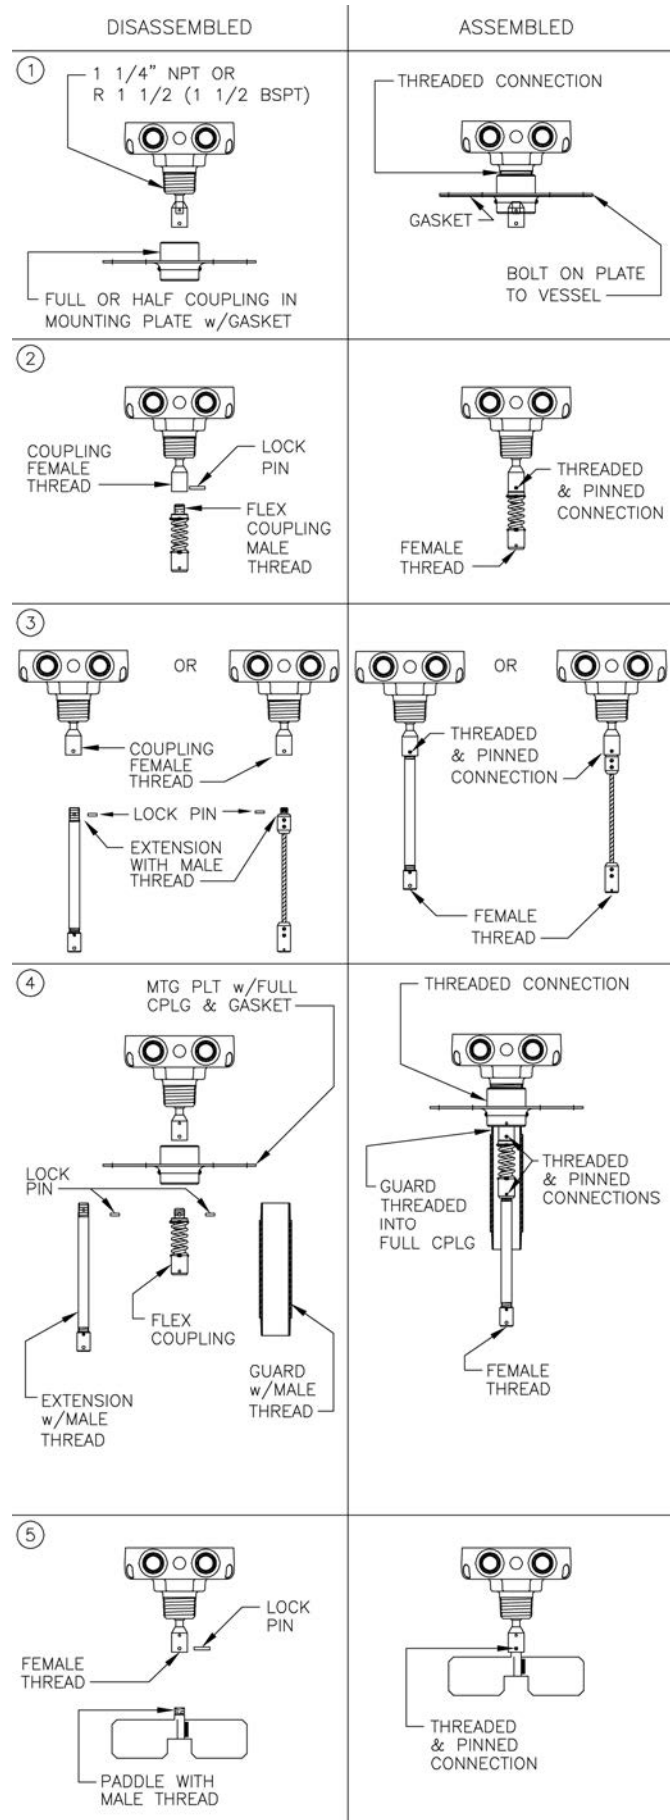

Figure 3
(1) Mounting Plate Attachment (if applicable)
After using the **mounting plate** as a mounting hole template (see Section 3), attach the mounting plate to the PLS unit prior to attaching to vessel. This is particularly advantageous if the paddle to be used is not the insertion type. Grease the paddle unit's threaded hub with anti-seize compound and thread the mounting plate into place until snug. (See also ① of Figure 3 for guidance).
(2) Flexible Coupling Attachment (if applicable)
Remove the **lock pin** from the PLS unit. Screw the **flex coupling** into the coupling provided on the PLS unit. Align the "through hole" within the connection and secure with the lock pin. (See ② of Figure 3 for guidance).
(3) Extension Attachment (if applicable)
Remove the lock pin from the PLS unit (or flex coupling). Screw the **extension** into the coupling provided on the PLS unit (or flex coupling). Align the "through hole" within the connection and secure with the lock pin. (See also ③ of Figure 3 for guidance).
(4) Guard Attachment (if applicable)
In applications using a mounting plate with a **full coupling**, slide the **1 1/4" pipe** over the shaft extension and secure to the mounting plate coupling. The shaft extension should protrude, from the guard, a distance of approximately 102 mm (4 inches). (See also ④ of Figure 3 for guidance).
(5) Paddle Attachment (if applicable)
The **paddle** should be attached at this time only if it has an insertion type connection or if a mounting plate is being utilized. Remove the lock pin from the applicable connection point (i.e. PLS unit, flex coupling, or extension). Screw the paddle into the applicable coupling. Align the "through hole" within the connection and secure with the lock pin. (See also ⑤ of Figure 3 for guidance).